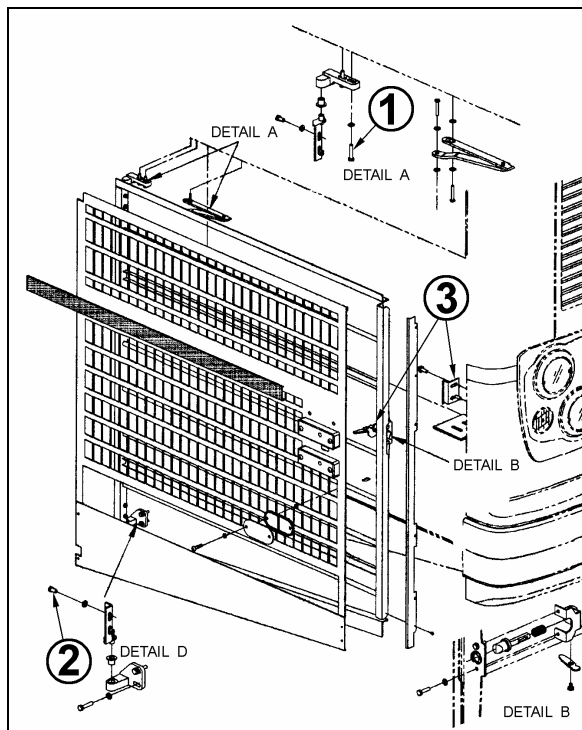

FIGURE 32: RADIATOR DOOR
1. Loosen the bolts, (1, Fig. 32) holding the hinge to the vehicle structure to shift the door "IN or OUT" and "UP or DOWN".
2. Loosening the bolts (2, Fig. 32) allows the door to be shifted "LEFT or RIGHT" and "UP or DOWN".
To adjust the latch mechanism (3, Fig. 32) and the striker pin: